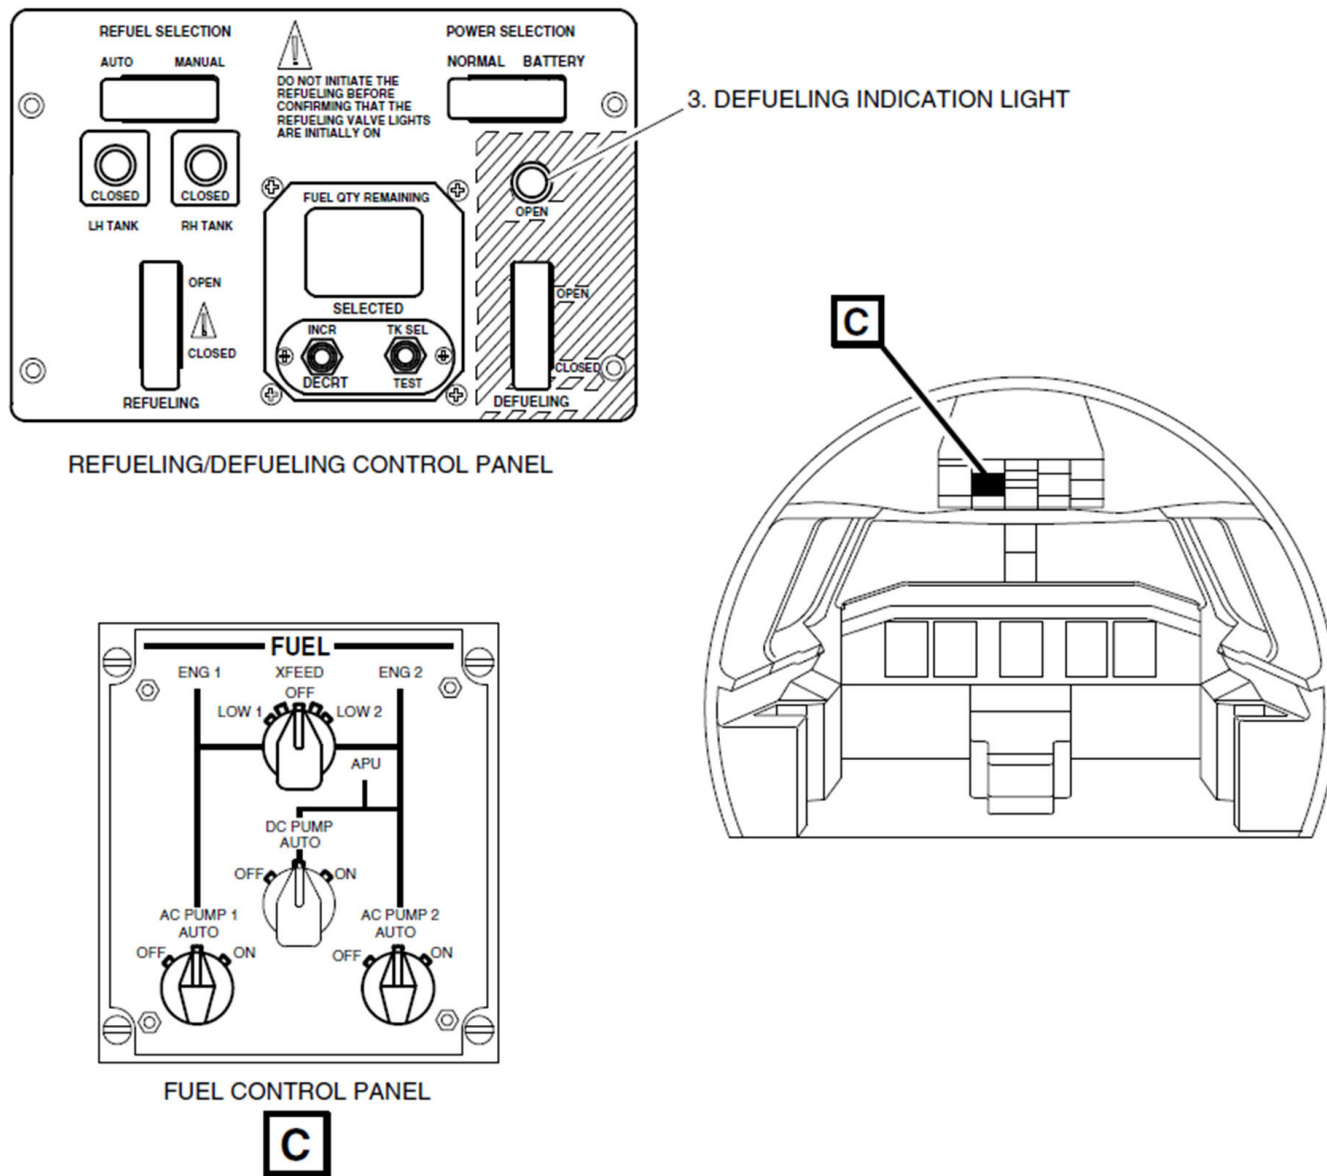

Figure 4-5: E-175 Flight Deck Defueling Controls
K. For the individual within the flight deck, refer to Figure 4-5: "E-175 Flight Deck Defueling Controls" for a visual reference to the procedure.